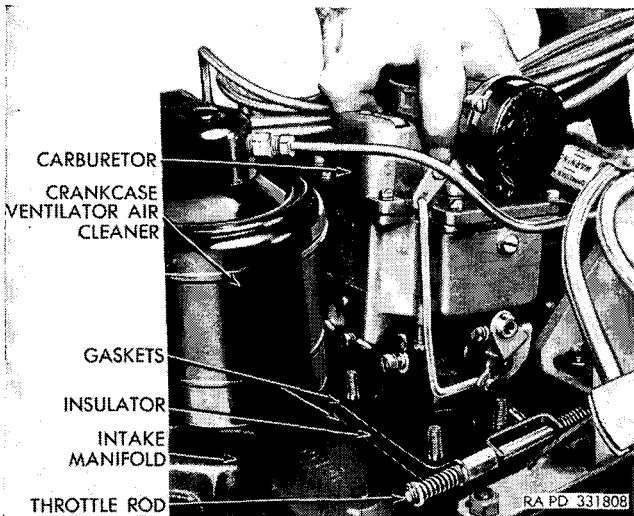

Figure 70. Removing carburetor.
b. REMOVAL. Disconnect choke heater line at carburetor and at manifold and remove line. Disconnect distributor ventilating line at carburetor air intake elbow (late model engines). Loosen hose clamp at carburetor air intake elbow (fig. 46) and lift elbow off carburetor. Make sure both fuel tank control levers (in driver's compartment) are in "OFF" positions. Loosen hose clamp at carburetor auxiliary fuel filter and slide hose off connection. Loosen hose clamp on crankcase-to-air-cleaner hose at rear of carburetor and slide hose off nipple. Unhook throttle retracting spring from throttle rod, and slide rod out of carburetor throttle shaft lever. Remove four nuts which hold carburetor to intake manifold and remove carburetor and upper gasket (fig. 70). Leave insulator and lower gasket on manifold.
c. INSTALLATION. Install a new gasket over insulator on intake manifold (fig. 70). Place carburetor over mounting studs on intake manifold, and install four retaining nuts. Slide rubber fuel hose over connection on carburetor auxiliary filter, and tighten hose clamp. Connect crankcase-to-air-cleaner hose to fitting at rear of carburetor, and tighten hose clamp. Connect choke heater line to carburetor and